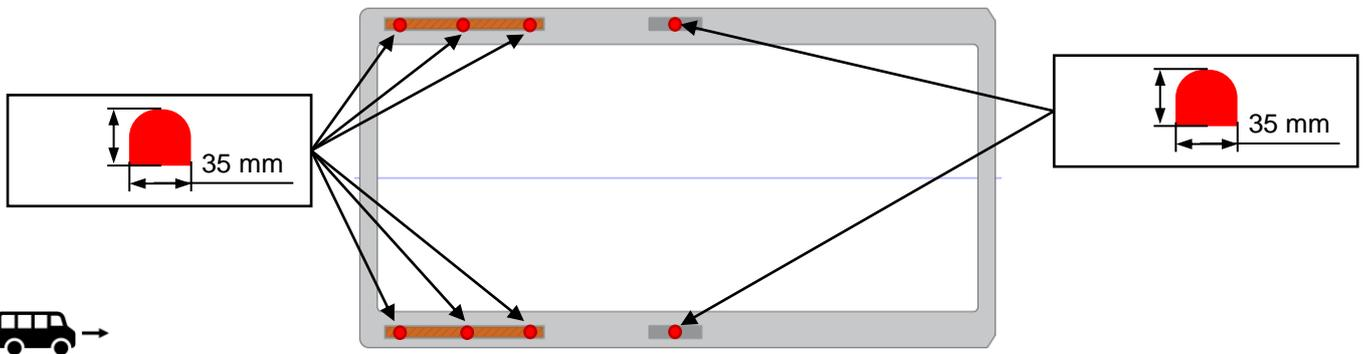
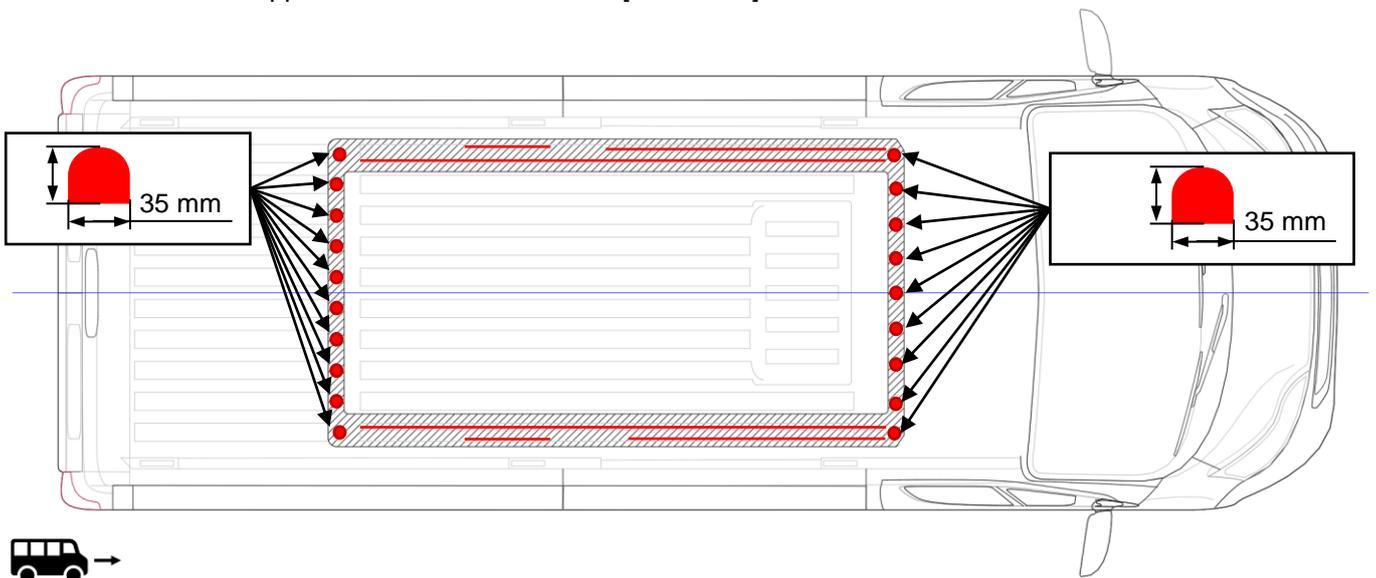

Abb. 3-11: Adhesive application to the GFRP frame [A0004005]
Abb. 3-12: Adhesive application to the vehicle [A0004005]
- Apply Sikaflex to the GFRP frame (see Abb. 3-11) and the vehicle (see Abb. 3-12)